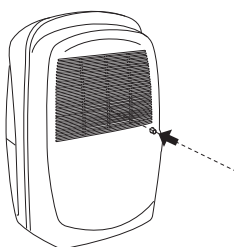

fig. 3
- 1) Drill the inside of the drain spout using a 7 mm dia. drill bit or removing the precut section by pressing with a screwdriver or similar (Fig. 3).